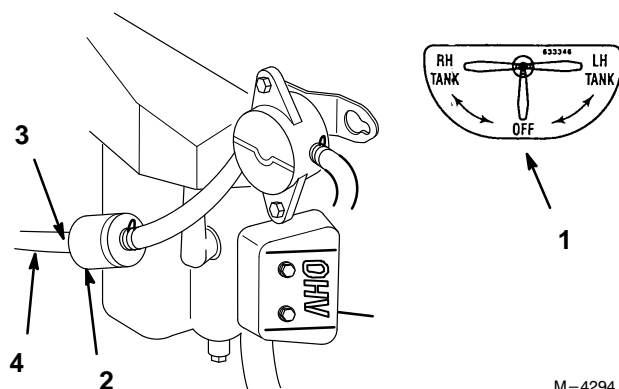

Figure 40
5. Install a new filter and move the hose clamps close to the filter (Fig. 40).
2. Close fuel shut-off valve (Fig. 40).
3. Loosen the hose clamp at the fuel filter and slide it up the fuel line away from the fuel filter (Fig. 40).
4. Pull the fuel line off fuel filter (Fig. 40).
5. Open fuel shut-off valve for left and right tanks. Allow gasoline to drain into a gas can or drain pan. (Fig. 40).
6. Install the fuel line onto the fuel filter. Slide the hose clamp close to the fuel filter to secure the fuel line (Fig. 40).